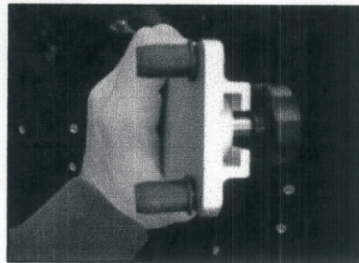

Figure 3
- 3) Insert a bolt through each hole of the slider assembly and loosely install the Nut Inserts on each bolt (Figure 3). Install the slider assembly by pushing the Nut Inserts into the holes and then tighten the bolts evenly.